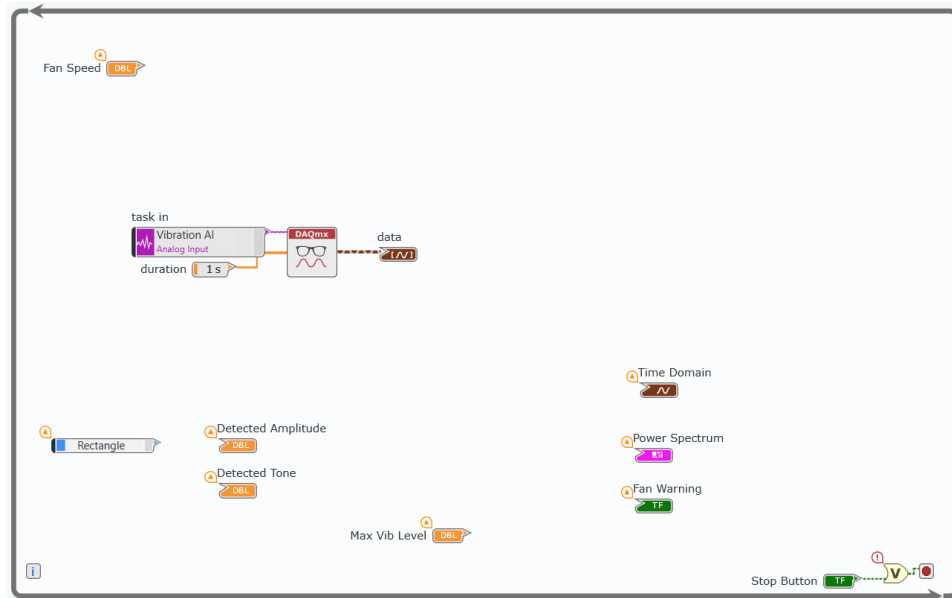

Figure 7-11 Dragging a task on to the block diagram places a task constant, DAQmx Read or Write function, and any required inputs or relevant outputs.
25. Find the task files saved at the beginning of this exercise in the Measurement Tasks folder in the Navigation Pane. Right click on **Analog Input.task** to rename the task to **Vibration AI.task**. Drag **Vibration AI.task** on to the block diagram as shown in Figure 7-11.